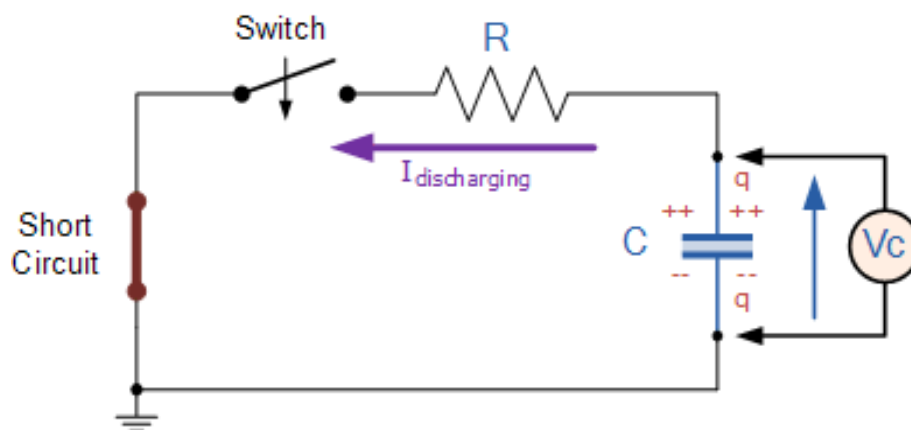

Figure 3.4: RC discharging circuit
5. Now make the connections as shown in figure 3.4.